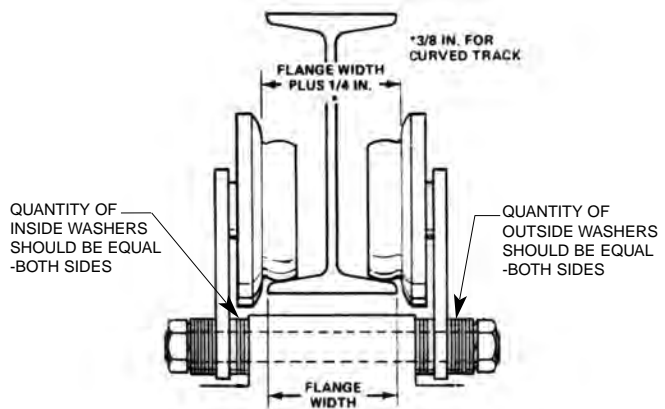
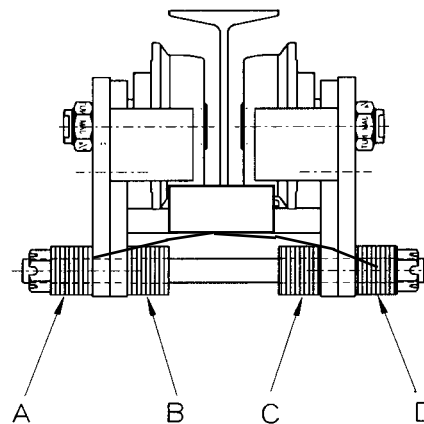

Figure 1.
Figure 2.
- Measure actual width of the beam flange on which the trolley is to operate. To determine proper trolley side frame spacing to assure that adequate wheel clearance is provided, the distance between the beam flange and the inside face of the trackwheel flange (approximately 1/8 to 3/16 inch on straight runway beams, 3/16 to 1/4 inch on curved beams for 2 ton units. See Figure 2) and (1/4 inch for straight runway beams, 3/8 inch on curved beams for 3-7 1/2 ton units. See Figure 1).